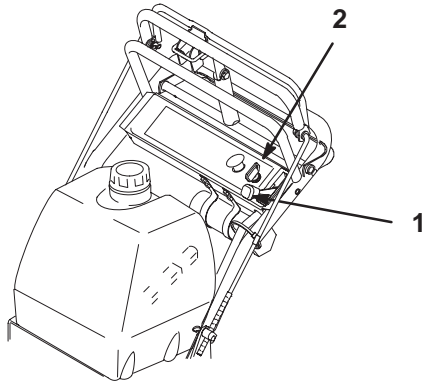

Figure 14
1. Move the throttle lever to slow (Fig. 14).
3. Turn the ignition key to off (Fig. 14).